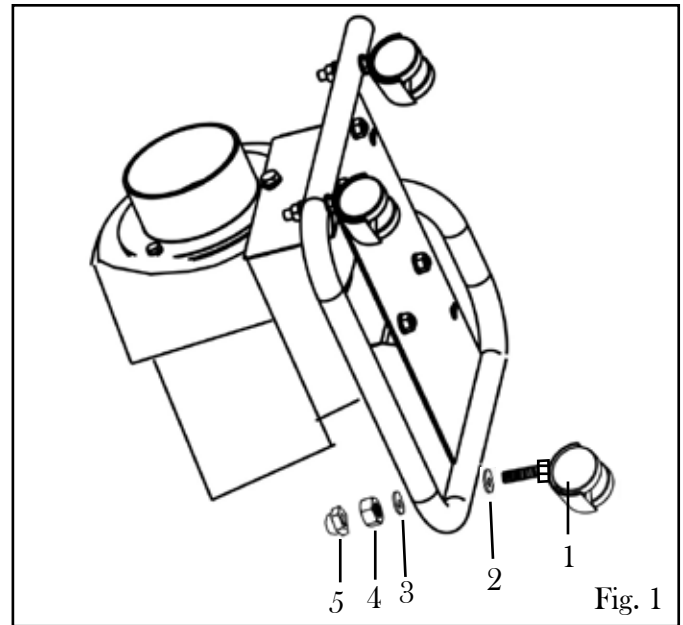

Fig. 1
1. Slide the caster (Fig. 1 - 1) through a washer (Fig. 1 - 2) and a mounting hole in the corner of the roller base.
2. Place another washer (Fig. 1 - 3) on the threaded portion of the caster above the roller base.
3. Thread the hex nut (Fig. 1 - 4) onto the caster.
4. Tighten the cap nut (Fig. 1 - 5) onto the caster to secure it in place.